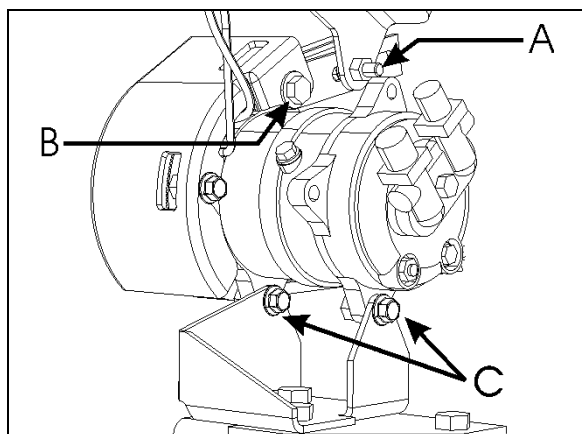

FIGURE 40: COMPRESSOR REMOVAL OR INSTALLATION 22349
- * Slacken bolts A (Refer to figure 40).
- * Remove bolts B & C (Refer to figure 40).